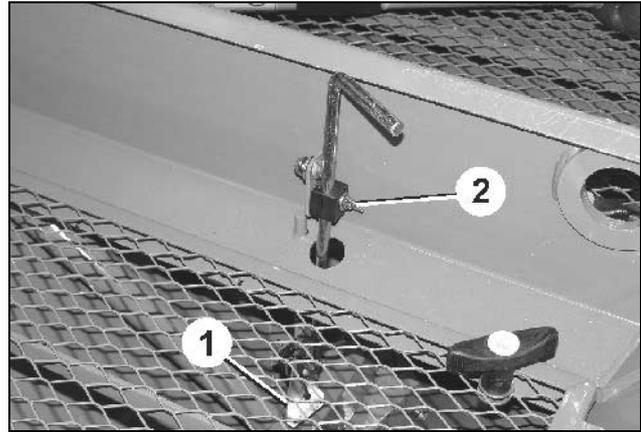

Fig. 93
1. Slacken the thumb nut (Fig. 93/2).
2. Set the level of the fill level sensor (Fig. 93/1) according to the desired seed residual amount.